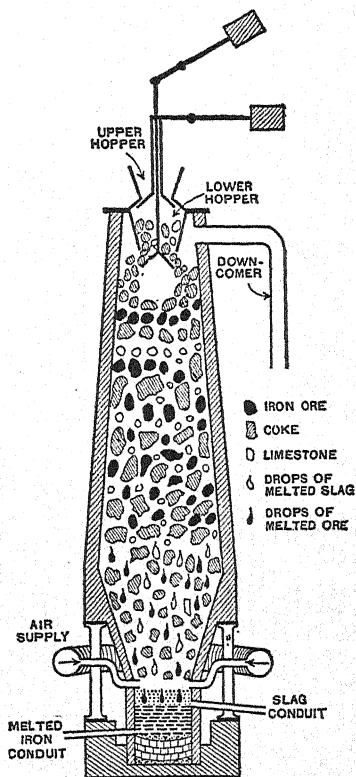

FIG. 254. — Diagram of blast furnace.
**434. How Iron Is Extracted by the Use of a Blast Furnace.** 1. *The furnace* itself is one of the giants used in industry. It consists of a steel shell from 80 to 100 ft. high, and from 20 to 25 ft. internal diameter. If the ceilings of your schoolroom are 14 ft. high, that means that the blast furnace is as tall as a school building six or seven stories high. The steel shell is lined with fire-brick. (See Fig. 254.) Water circulates through a shell built into the walls in order to protect those portions of the furnace that are subjected to the